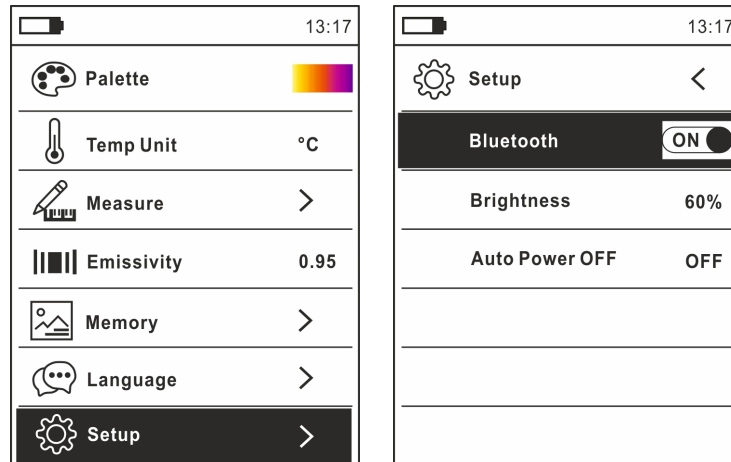

Fig. 18: Activation of Bluetooth connection
1. Press key , select menu "Settings" and activate the Bluetooth connection on the instrument (see § 5.2) as shown in Fig. 18